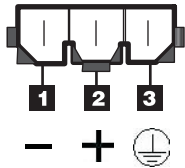

Figure 14. DC power connector - pin positions
- b. Connect the dc power cable to the power supply. See Figure 14 and Table 1 for the dc power supply connector PIN positions.